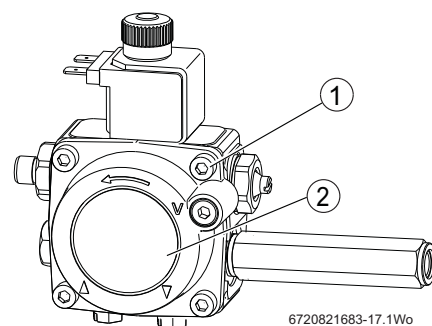

Fig. 65 Pump filter access
- ▶ Refer to figure 65 and remove the oil pump internal filter, clean in Kerosene and reassemble.